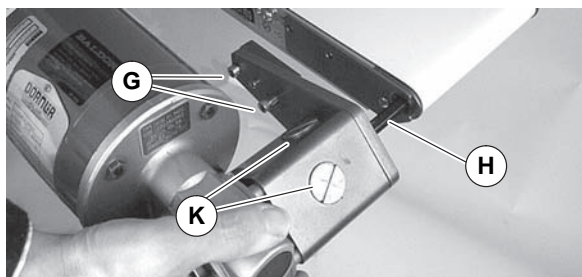

**Figure 9**
- Insert hex shaft (Figure 9, item H) into coupling.
Coupling has two (2) set screws (Figure 9, item L).